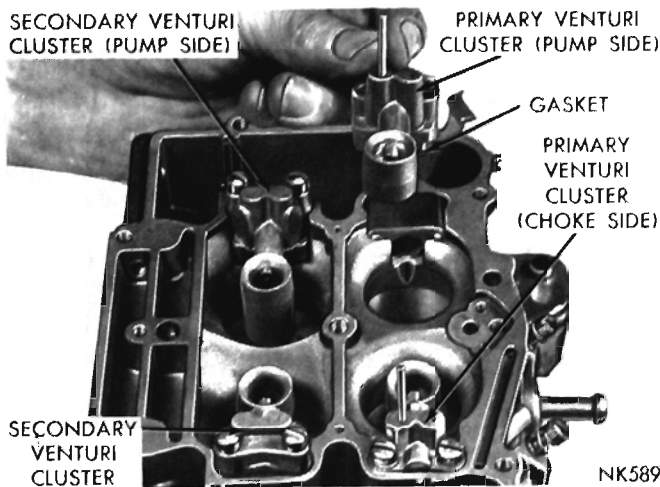

Fig. 5—Removing or Installing Primary Venturi Cluster
(4) Remove screws that attach primary venturi (choke and pump side) to main body. Lift the venturi straight up and away from main body, as shown in (Fig. 5). Discard the gaskets. **The venturi assemblies are not interchangeable, side for side and must be reinstalled in their original locations at reassembly.**
then install the primary venturi (pump and choke side) by lowering straight down on gaskets. Refer to (Fig. 5). Install attaching screws and tighten securely.